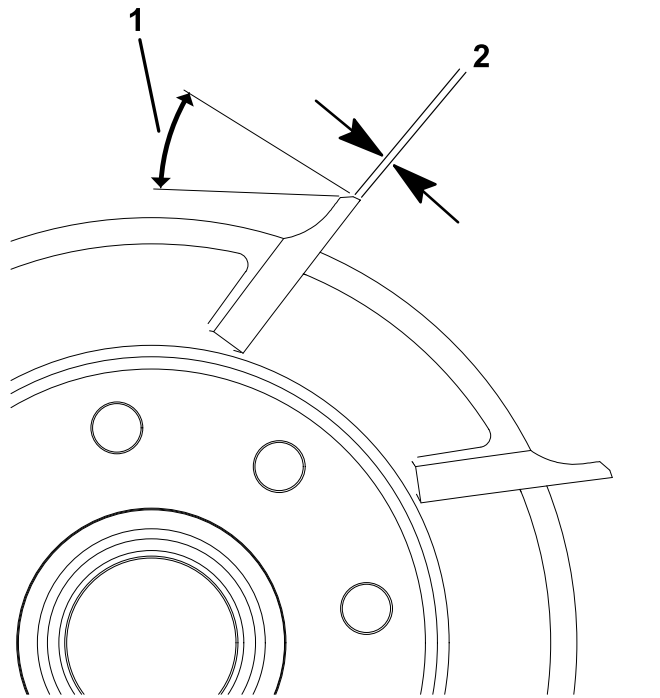

Figure 27
- 1. Apply a 30° relief grind on all reel blades until the land width is 0.8 mm (0.03 inches) wide (Figure 27).